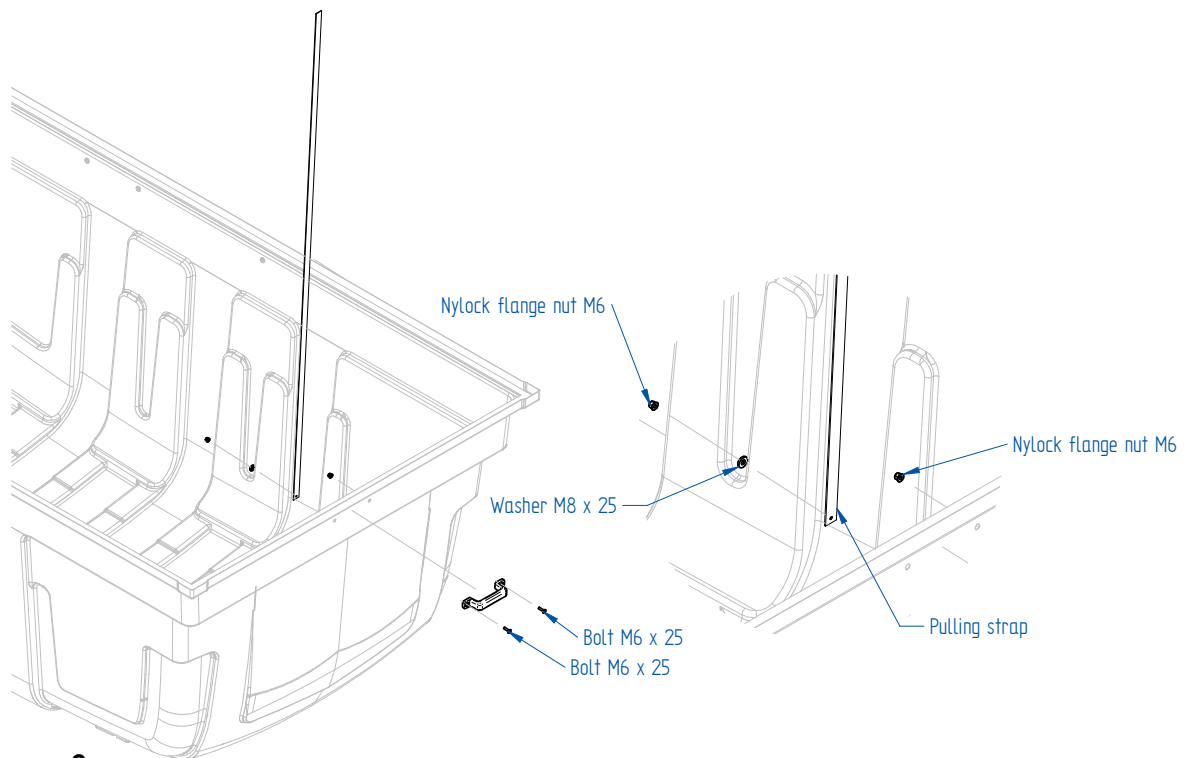

Figure 6
6. Fasten the handle to the back wall of the cover through the predrilled holes. Use M6x25 bolts + M6 Nylock flanged nuts. Also fasten the down pulling strap under one of the nuts. Use M8x25 washer like shown in figure 6.